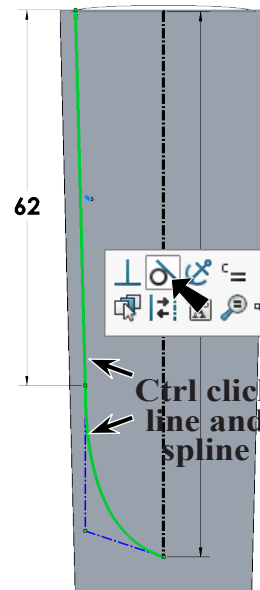

Fig. 38
Step 18. **Ctrl click line and spline** to select both. Release Ctrl key and click **Make Tangent**  on the context toolbar, **Fig. 38**.
Step 19. Click **Smart Dimension**  (S) on the Sketch toolbar.